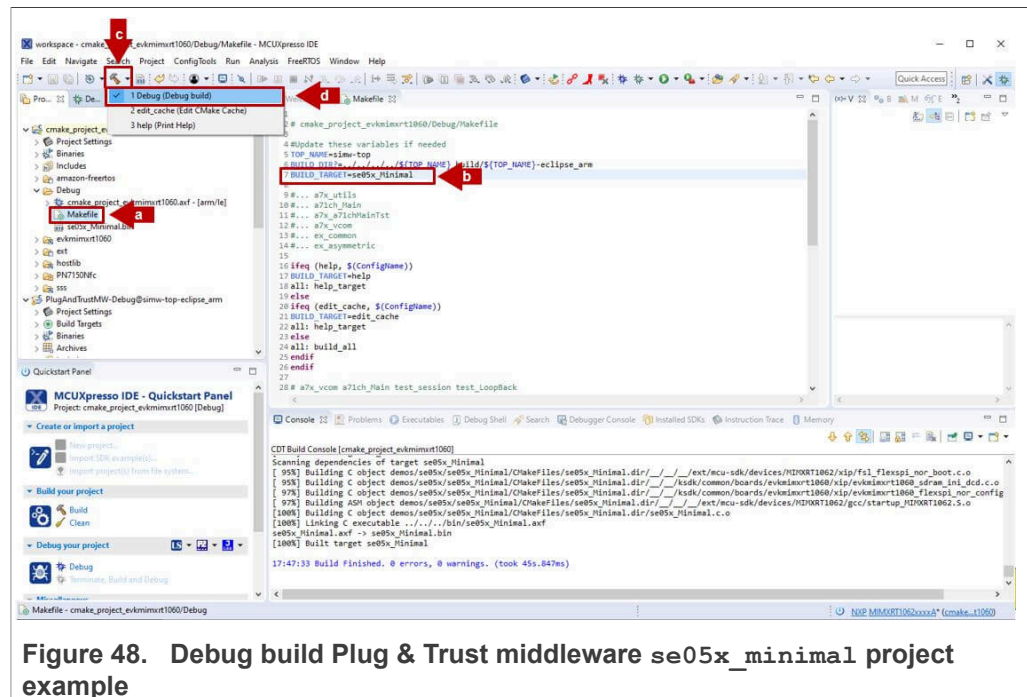

Figure 48. Debug build Plug & Trust middleware `se05x_minimal` project example
3. Select the `se05x_Minimal` as the project to be executed. For that, follow the steps shown in Figure 48: